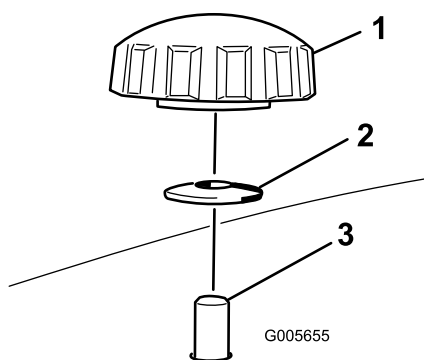
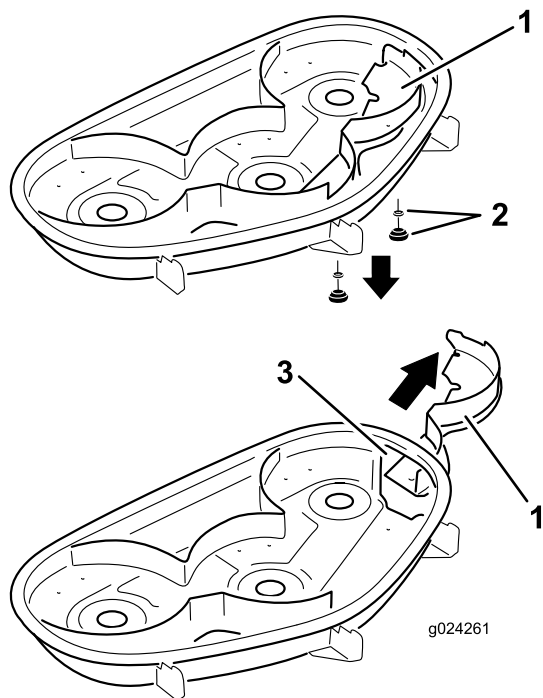

Figure 28
Figure 29
- Remove the 2 knobs and curved washers that secure the right baffle to the mower (Figure 28).
- Remove the right baffle and lower the grass deflector over the discharge opening as shown in Figure 28 and Figure 29.
5. Slide the right baffle under the mower deck, and secure it using 2 knobs and the curved washers (cupped side facing the mower) as shown in Figure 28 and Figure 29.